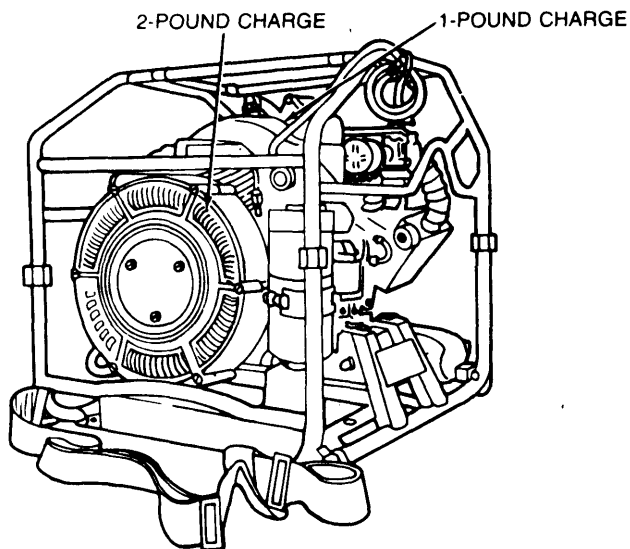

Figure 3-1. Explosive Charge Location for AN-M4 Series Compressor Unit.
- (1) Engine cylinder
- (2) Compressor cylinders
- (3) Carburetor
- (4) Fuel tank
d. **Demolition (para 2-11).** Place the explosive charges as follows (fig 3-1). Detonate all charges at same time.
- (1) Fasten 1-pound charge on engine cylinders.
- (2) Fasten 2-pound charge between compressor cylinders.